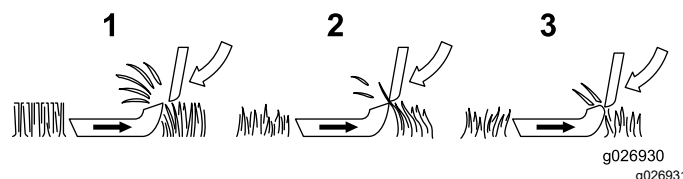

Figure 8
1. **Bedknife/Reel Contact** (Figure 8) – There must be light contact between the bedknife and the reel to keep the cutting edges sharp and to produce an excellent quality of cut. By contrast, cutting units operated without light contact allow abrasive materials and grass to pass between the bedknife and the reel. This eroding action rounds off the bedknife and the reel cutting edges, which results in a poor quality of cut. If the cutting edges become round, the bedknife and the reel must be lapped. Excessive rounding off of the cutting edges may require that the bedknife and the reel be ground and lapped. Never compensate for round cutting edges by tightening the bedknife adjusting knob until there is heavy contact because the bedknife and the reel will wear unevenly and cause a rifling effect.